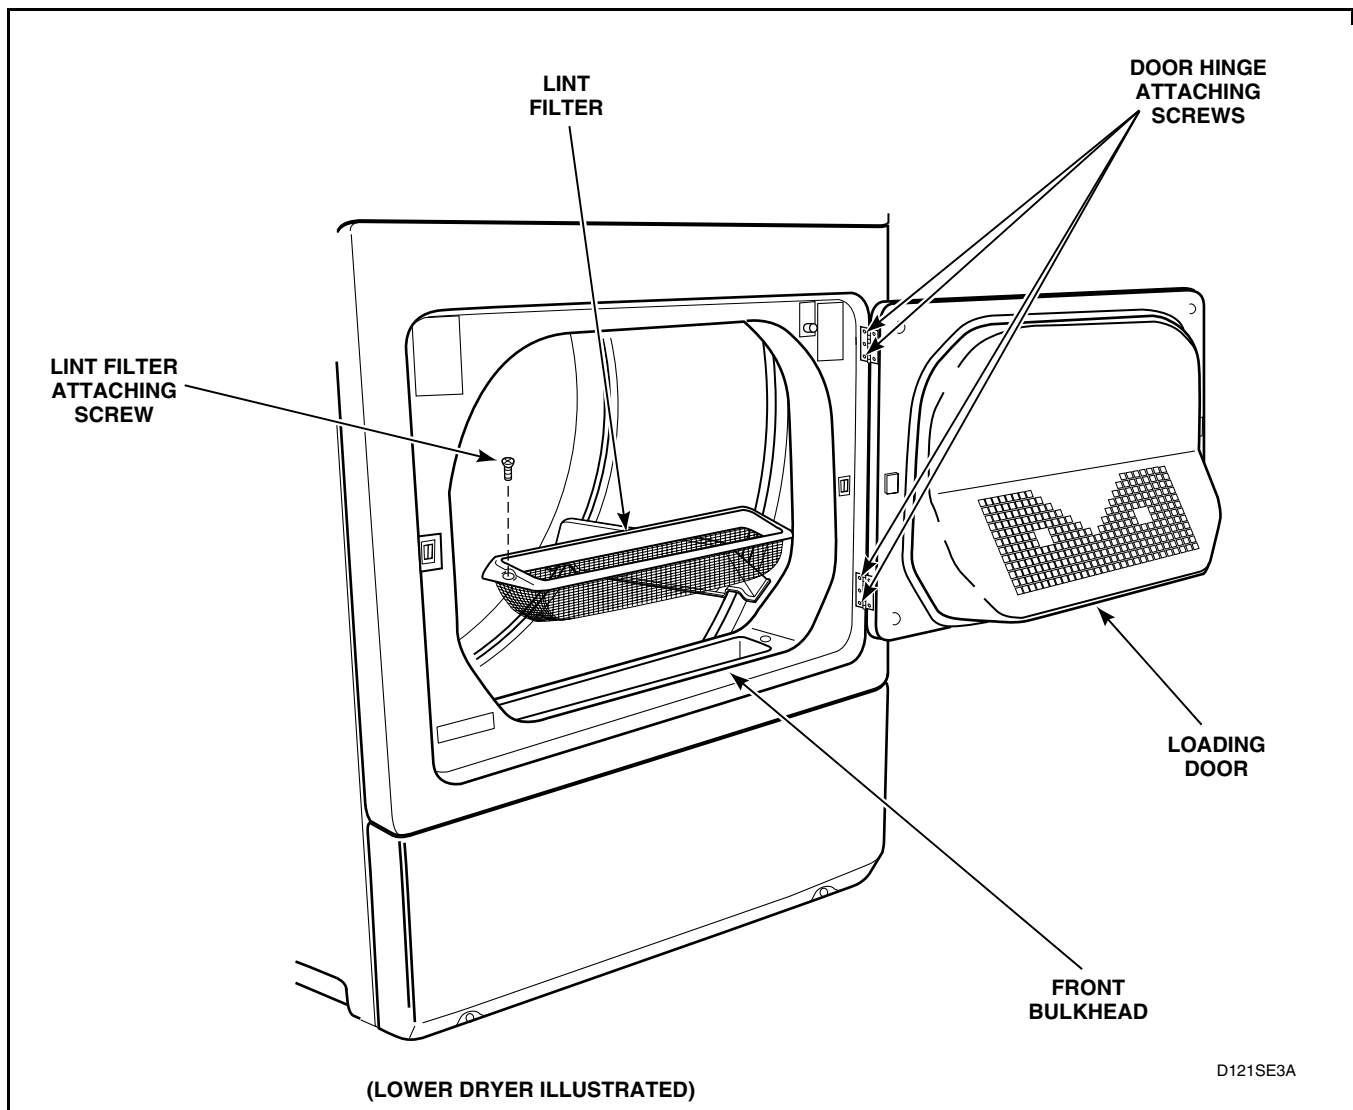

Figure 21
Refer to *Figure 21*
- a. Open loading door. Refer to *Figure 21*.
- b. Support loading door and remove screws holding loading door and hinges to front panel. Refer to *Figure 21*.
- Remove screws holding loading door assembly and hinge to front panel. Refer to *Figure 21*.